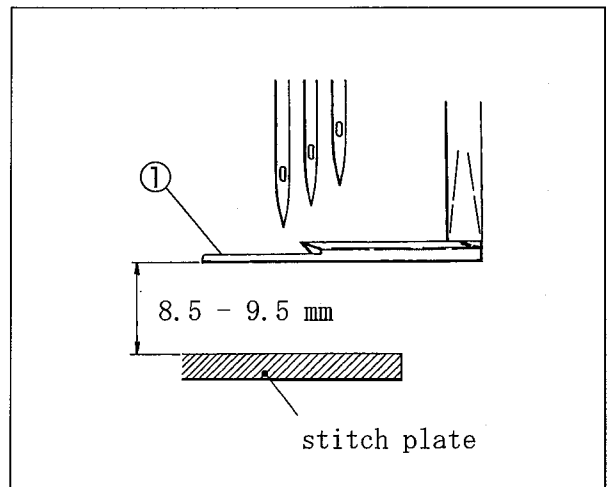

Fig. 44
- (4) Make a height from the top of the stitch plate to the bottom of the spreader ① to 8.5 - 9.5 mm. Then tighten the screw ③ securely. (Figs. 44 and 45)